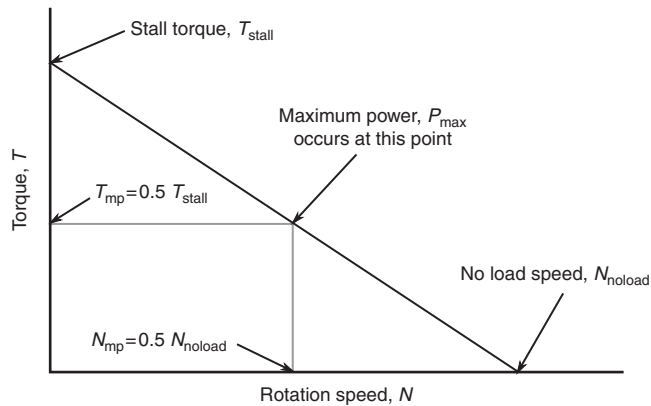

FIGURE 26.1
Direct current (DC) brushed motors are commonly used in student design projects due to their availability, price, and performance. Hobby websites offer many DC motors with different specifications, and a method of selecting the appropriate motor is described below. To begin understanding DC motors, Fig. 26.1 shows the torque versus speed curve of a typical DC motor with a constant applied voltage. Here torque is defined as an external loading applied to the motor shaft that resists rotation of the shaft in proportion to the magnitude of the applied torque. For example a motor powering a small vehicle experiences torque when it accelerates, climbs an incline or pushes against a wall.
Each point on the motor curve shown in Fig. 26.1 represents a different equilibrium state of the motor. For example, if the motor shaft is allowed to freely spin, it has a rotational speed equal to the no-load speed, denoted by $N_{\text{no-load}}$. Conversely, if you grab the spinning motor shaft between your fingers and gradually increase the pressure, the shaft stops spinning when the torque you apply reaches a value equal to the stall torque, T_{stall} . Therefore, to determine the actual motor speed, N_{motor} , we need to know $N_{\text{no-load}}$ and T_{stall} of the given motor, as well as the actual torque, T_{motor} , acting on the motor shaft.
The maximum power output of a brushed DC motor occurs when it is operating at half the stall torque. It therefore can be estimated by substituting $T = 0.5 \times T_{\text{stall}}$ and $N = 0.5 \times N_{\text{no-load}}$ into Eq. (26.2). A brushed DC motor for a specific application must be selected such that this estimate of mechanical power available from the motor is greater than the required power as determined from the design requirements (see Fig. 26.1).
With small DC motors, the determination of the motor's actual operating speed under load, N_{motor} , is not always a straightforward matter. To begin with, N_{motor} is linearly dependent on the actual torque on the motor shaft, as illustrated in Fig. 26.1. If the motor shaft is allowed to freely spin it has a robotic speed equal to the no-load speed, denoted by $N_{\text{no-load}}$. Conversely, if you grab the motor shaft between your fingers and gradually increase the pressure, the shaft stops spinning when the torque you apply reaches a value equal to the stall torque, T_{stall} . Therefore, to determine the value of N_{motor} to be used in Eq. (26.8), we need to know $N_{\text{no-load}}$ and T_{stall} of the given motor, as well as the actual torque T_{motor} acting on the motor shaft.²